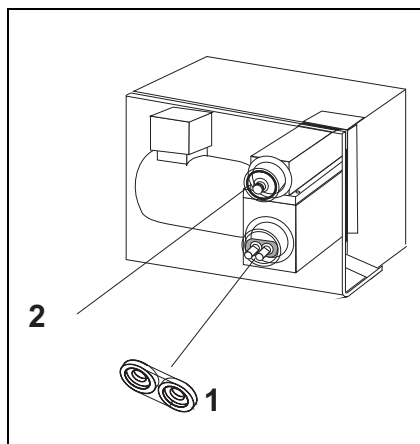

Fig. 6.12 Screw seal
2. Insert screw seal (1) and o-ring (2) (see Fig. 6.12).